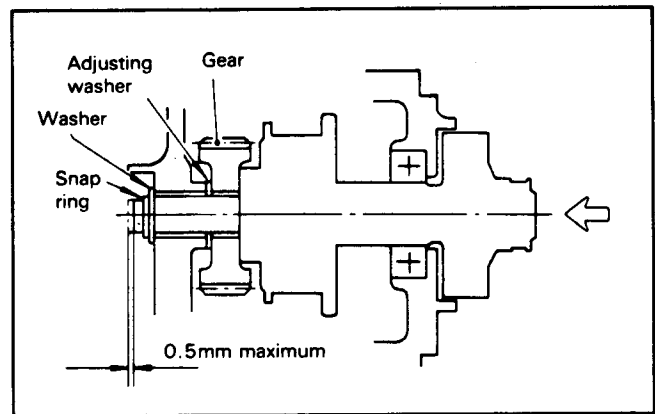

Figure 34
2. Set the pinion shaft end play (thrust gap) to 0.5 mm (0.02 in.) or less by inserting an adjusting washer between the center bracket and reduction gear (Fig. 34).